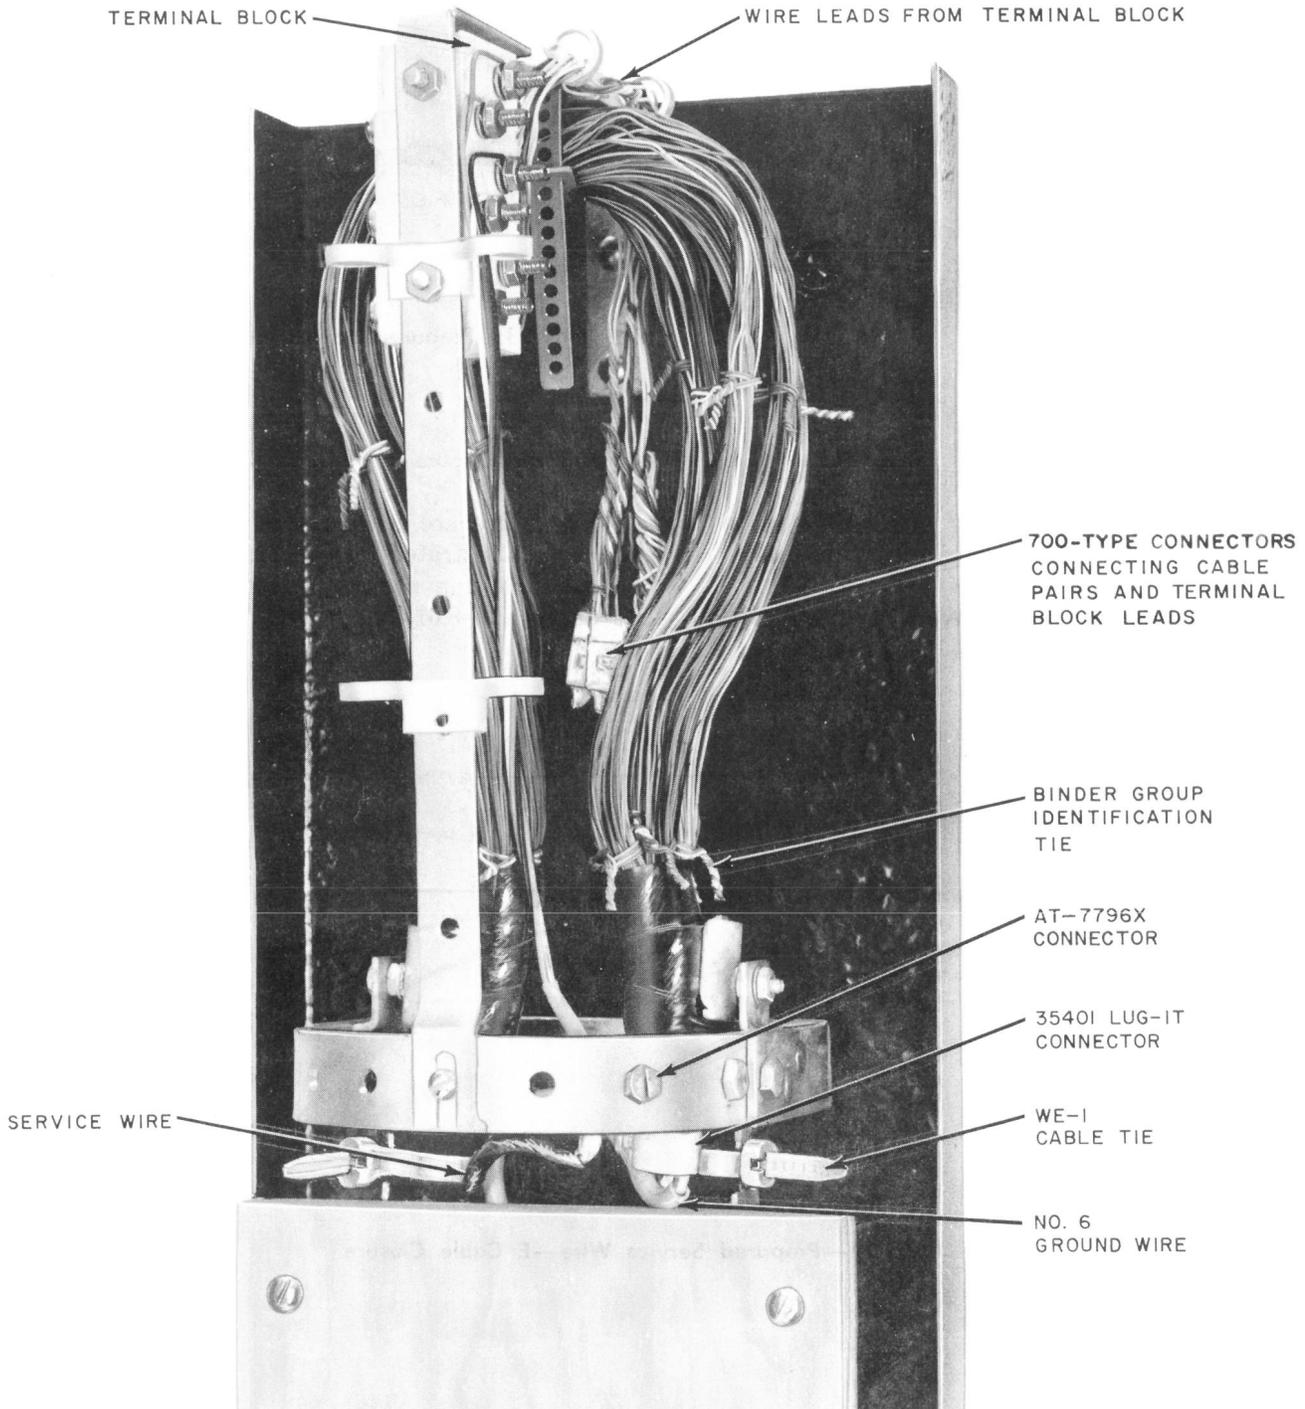

Fig. 23—Service Wire Installed—J Cable Closure (Protected)
7.06 Terminate service wire in the J cable closure as shown in Fig. 23.